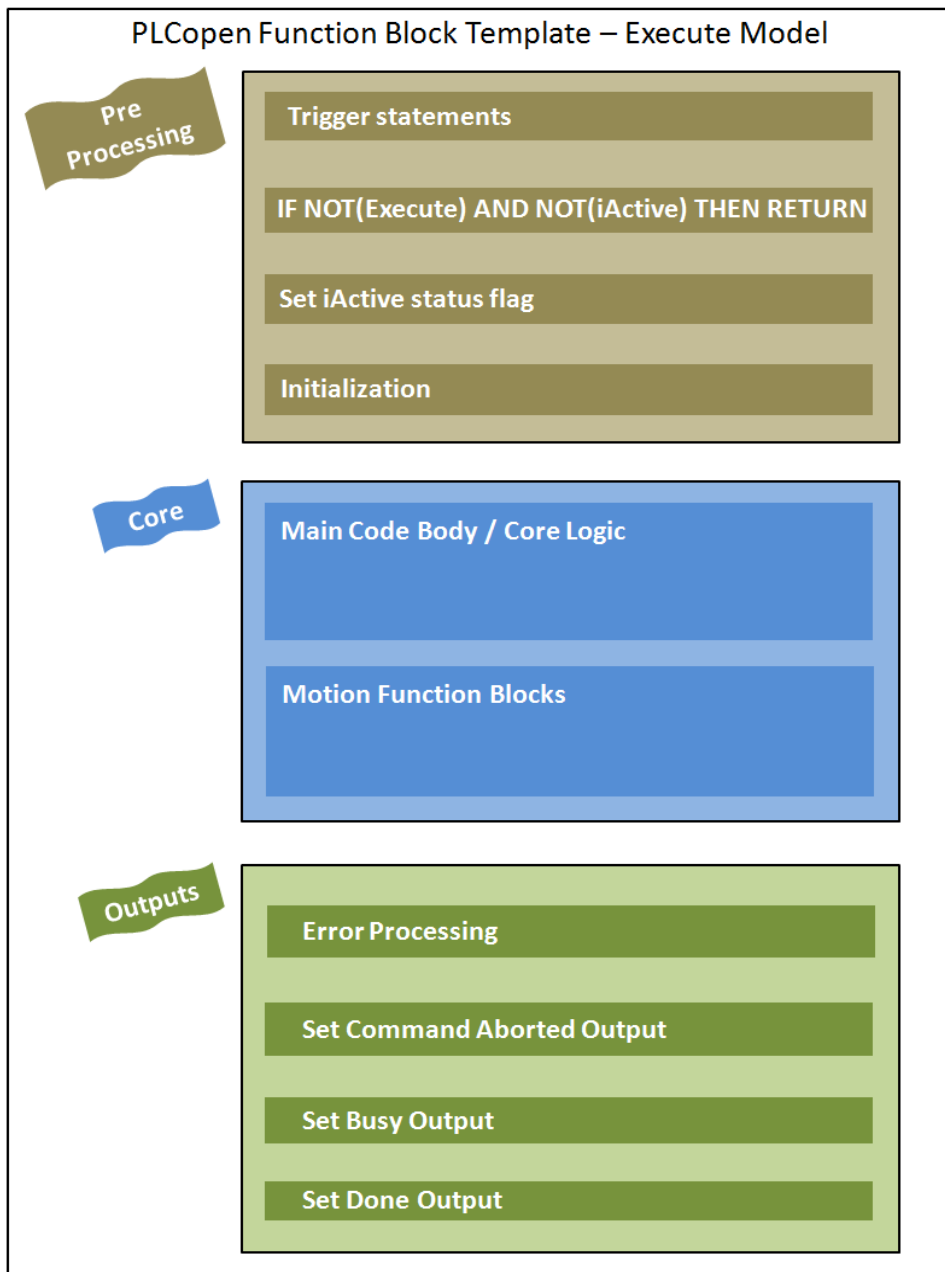

Figure 3: Execute Template in simplified form
Figure 3 is a representation of each part of the function block code. The order of operations is the same in Ladder Diagram (LD) or Structured Text (ST) programming. Code order is very important for ensuring consistent output behavior, which is essential for proper sequencing and error trapping, especially when function blocks are triggered using an R\_TRIG one shot.
What follows is a detailed explanation of the code sections depicted in Figure 3 on page 7.